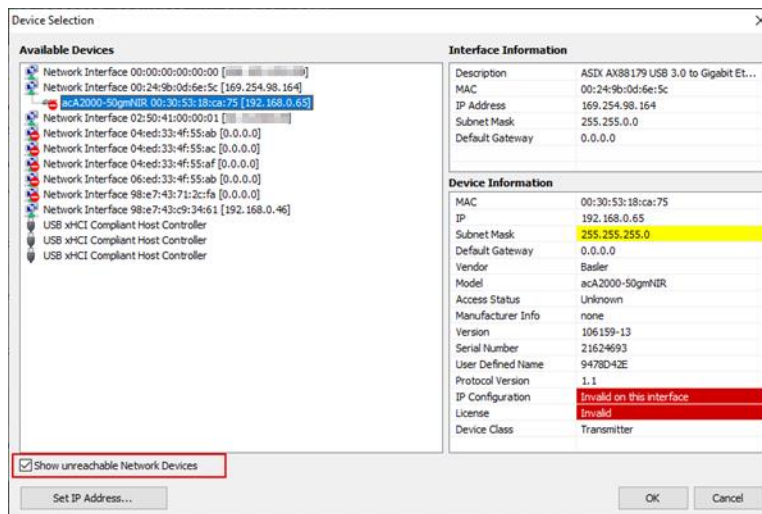

Figure 118: Show Unreachable Network Devices
- c. After a few moments, the camera displays. The IP Configuration property on the right pane will be red and display **Invalid on this interface** (Figure 118).